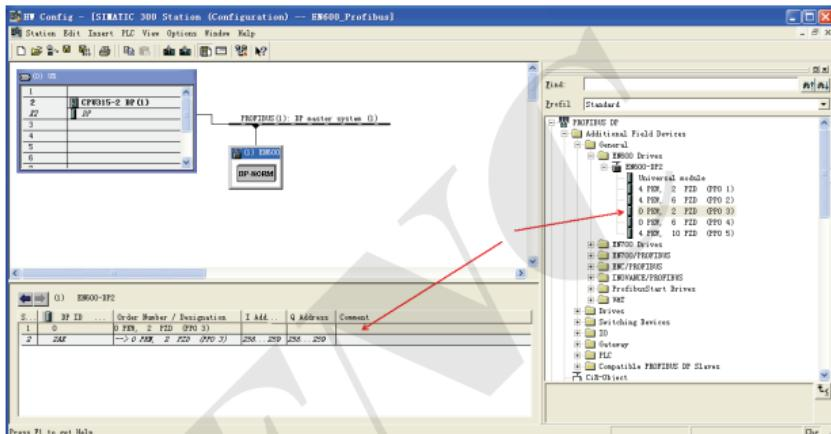

Fig.3-10
(6) Assign the address of PPO in PLC 300. Take PPO3 as an example, the address of PPO is assigned by PLC automatically. As shown in Figure 3-10, I Address is from 256 to 259 and Q Address is from 256 to 259. It can be seen that the occupied address of Data Output 1 is 256 in the PLC (hexadecimal 0x100), the occupied address of Data Output 2 is 258 in the PLC (hexadecimal 0x102), and the occupied address of Data Input 1 is 256 in the PLC (hexadecimal 0x100), the occupied address of Data Input 2 is 258 in the PLC (hexadecimal 0x102),